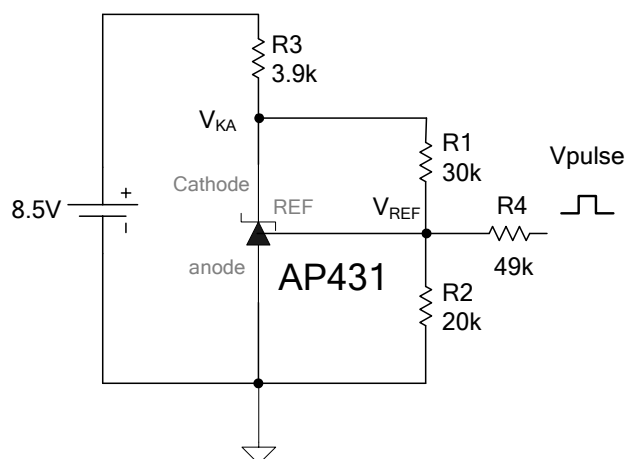
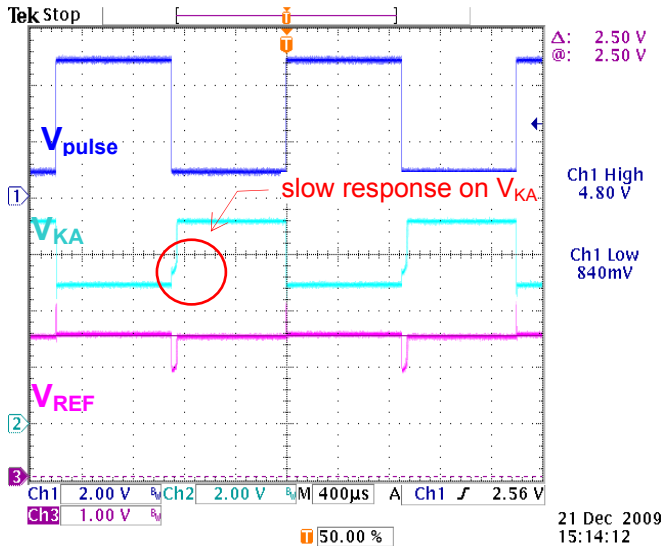

Figure 3: AP431 test circuit for signal response
Figure 4: AP431 V_{ka} response to V_{pulse} input
- 3.2 In the test circuit in fig. 3, V_{pulse} of around 4V magnitude causes REF voltage to drop below 2V, resulting in undesirable slow response on V_{KA} . The circuit returns to normal regulation (i.e., V_{KA} returns to 7V) when REF voltage recovers to over 2.1V. (Figure 4)